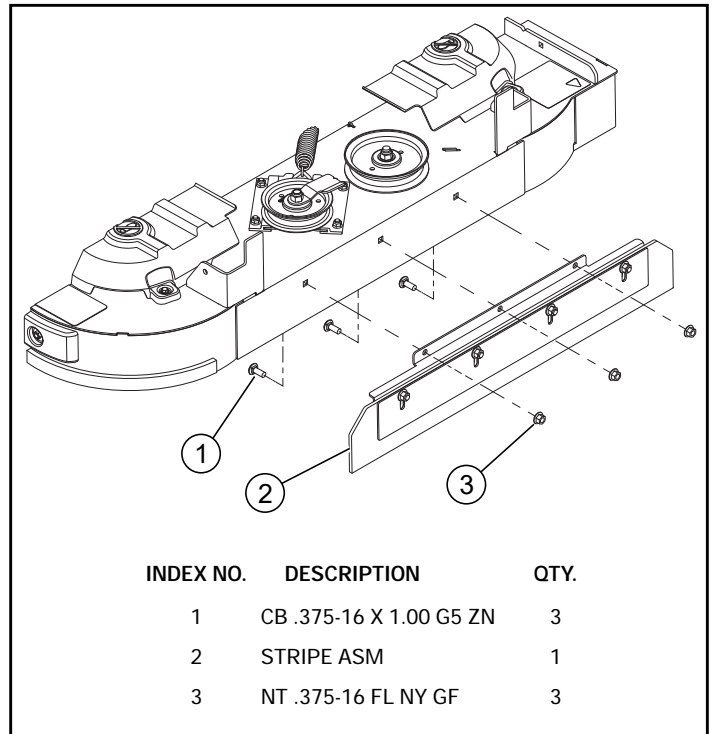
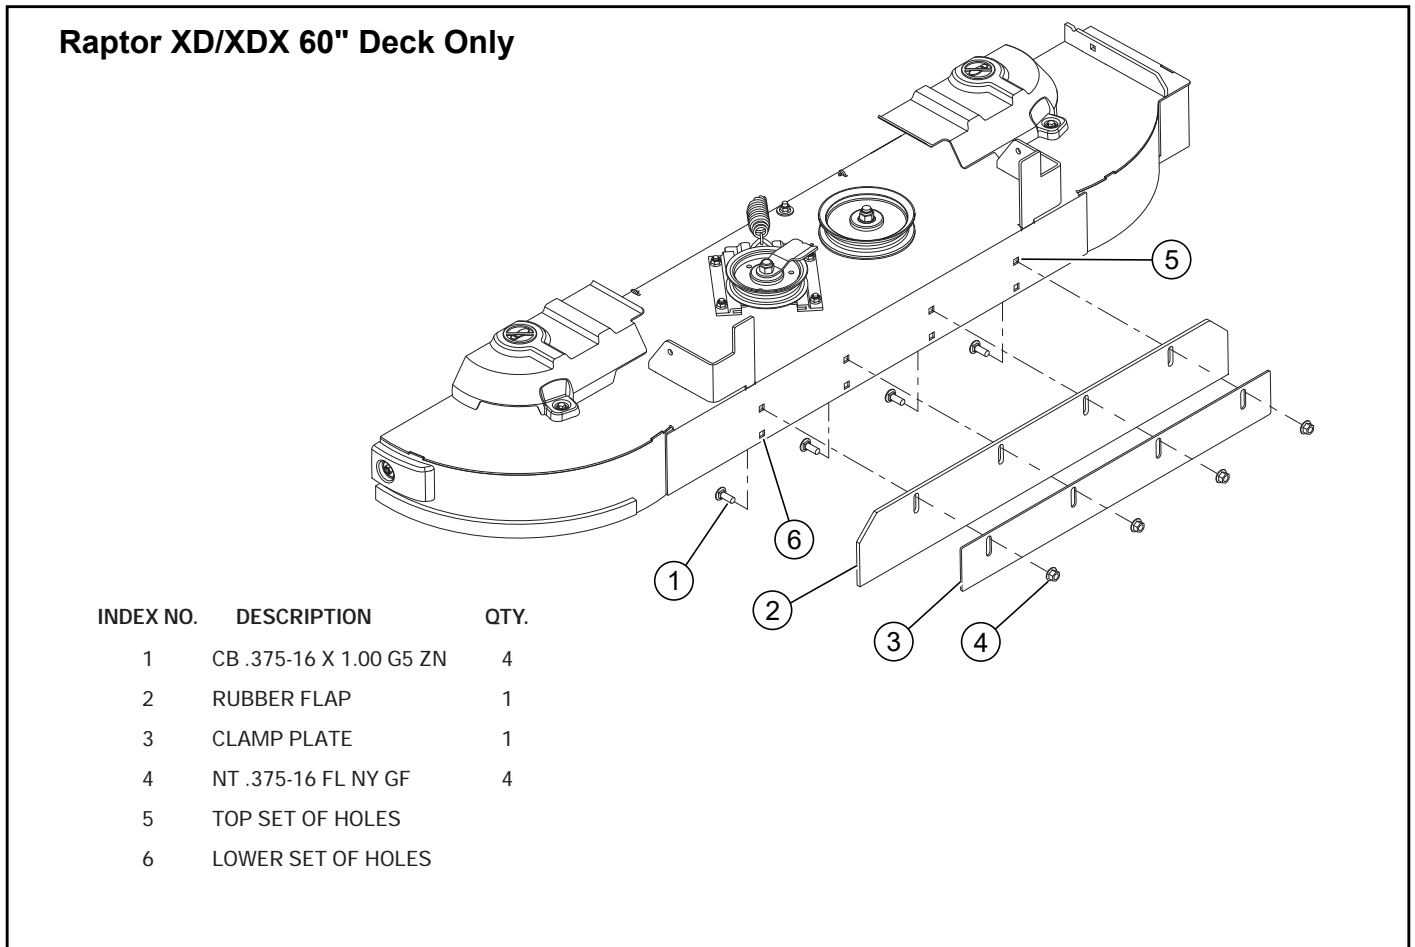

FIG. 2
FIG. 3
3. Attach the stripe kit to the deck as shown in Fig. 2 or Fig. 3.
Raptor® XD/XDX 60" Decks – There are two sets of mounting holes on this deck. When the rubber flap and clamp plate are mounted in the top set of holes, the bottom of the rubber flap is 1.35" to 2.35" below the blades. When the rubber flap and clamp plate are mounted in the lower set of holes, the bottom of the rubber flap is 3.25" to 4.25" below the blades. Fig. 3